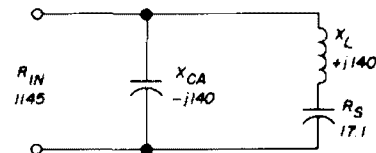

fig. 5. Electrical equivalent of the series-tuned circuit in fig. 5.
fig. 5. Total resistor impedance decreases with frequency. This is especially apparent with the larger values. Resistor impedance is a much more meaningful measurement than simple ac resistance.
The total impedance of a resistor with shunt capacitance appears to be a more meaningful indicator of resistor performance at high frequencies than the basic ac resistance measurement.* A comparison of the curves in fig. 5 indicates that very little difference exists between the two types of resistors at high frequencies if the basis of comparison is total impedance alone.
impedance is $17.1 + j140$. Thus the circuit of fig. 4 may be simplified to the form shown in fig 5. This parallel resonant circuit is exactly the same result you would obtain if you reduced the standard pi-network to its most simple equivalent form.
fig. 4. Tuning capacitor may be placed in series with the inductor (A). Equivalent reactance values are shown in (B). This circuit is electrically equivalent to circuit in fig. 5.